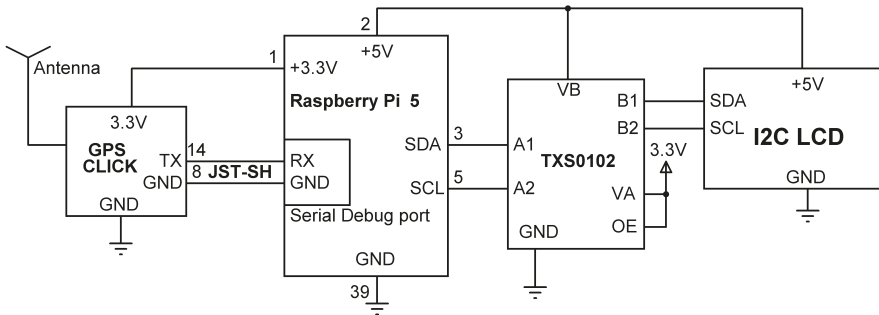

Figure 4.26: Circuit diagram of the project.
**Circuit Diagram:** The circuit diagram of the project is shown in Figure 4.26. The UART TX pin of the GPS click board (pin 14) and Ground (pin 8) are connected to RX (yellow) and Ground (black) pins of the cable. The I2C LCD is connected as in the previous projects. i.e., the SDA and SCL pins are connected to GPIO2 and GPIO3 respectively through a logic level converter module. The GPS click board is powered from the Raspberry Pi 5's +3.3 V supply.